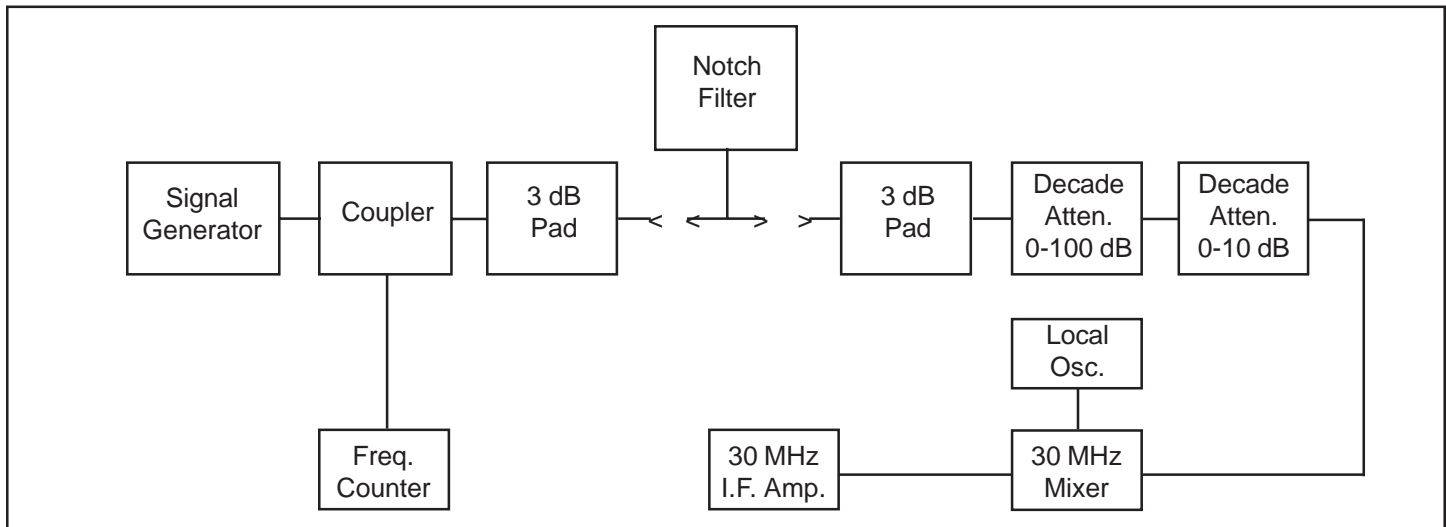

Figure 3 - Laboratory Tuning Equipment
1. Connect equipment as shown in Figure 3.